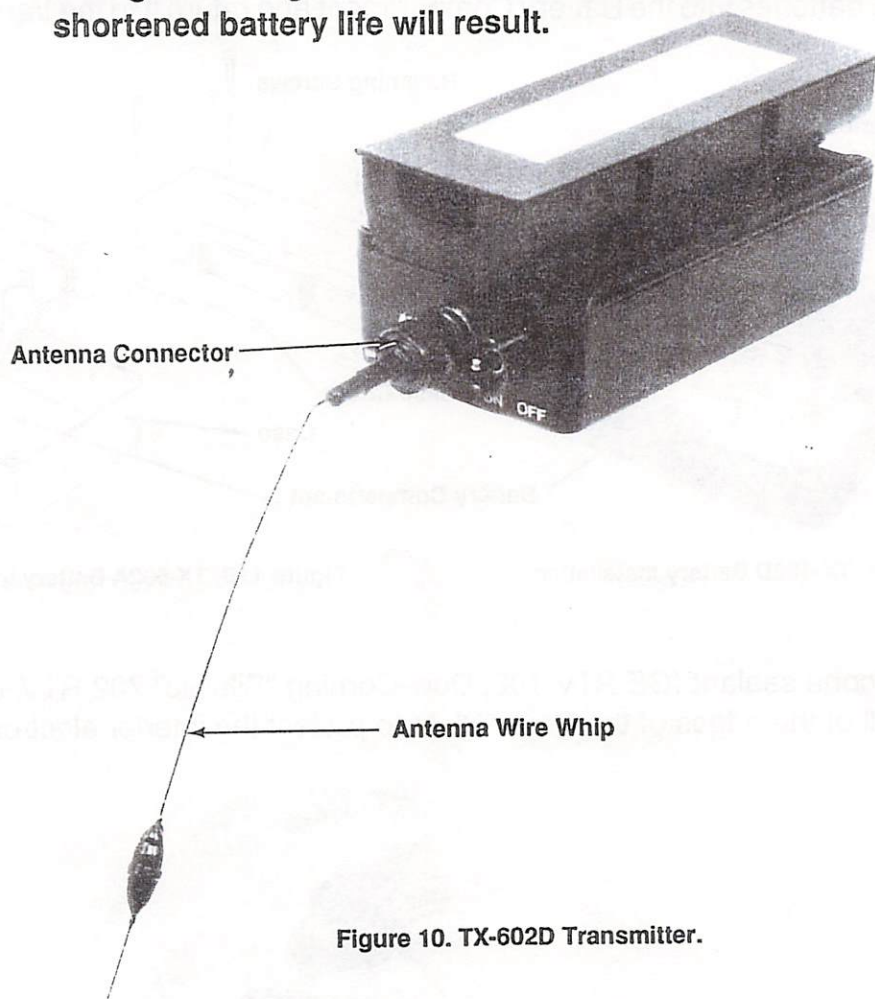

Figure 10. TX-602D Transmitter.
Connect the Antenna to the transmitter's Antenna Connector, as shown in Figure 10. Secure the Antenna in place by turning the connector clockwise. The position of the Antenna may be changed by (1) rotating the Connector counterclockwise (2) rotating the Antenna by grasping it at the base where it comes out of the Connector and (3) rotating the Connector counterclockwise. **NEVER** bend the wire portion of the Antenna.